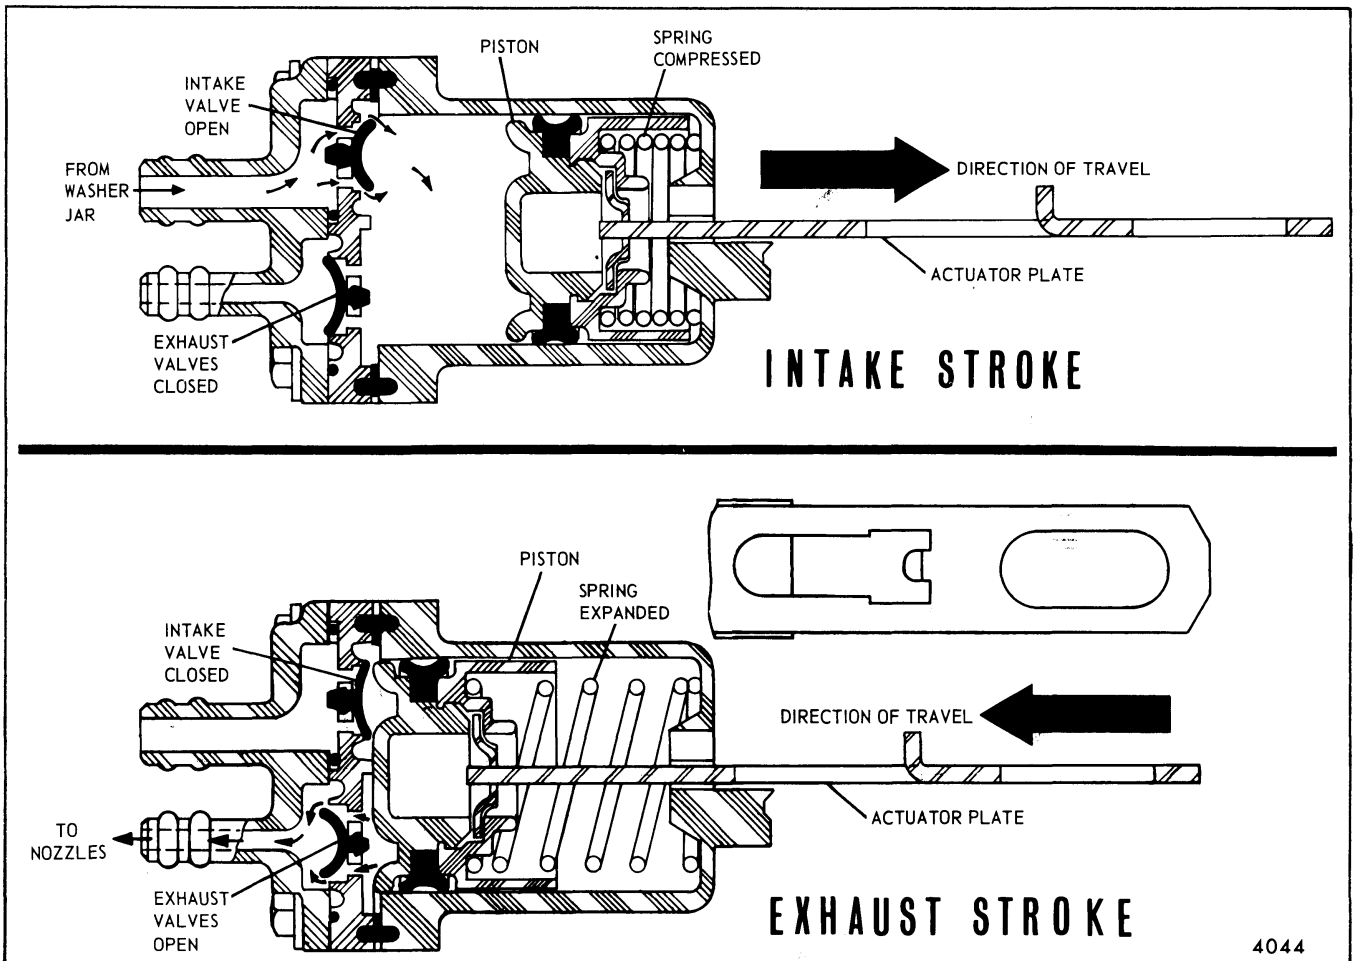
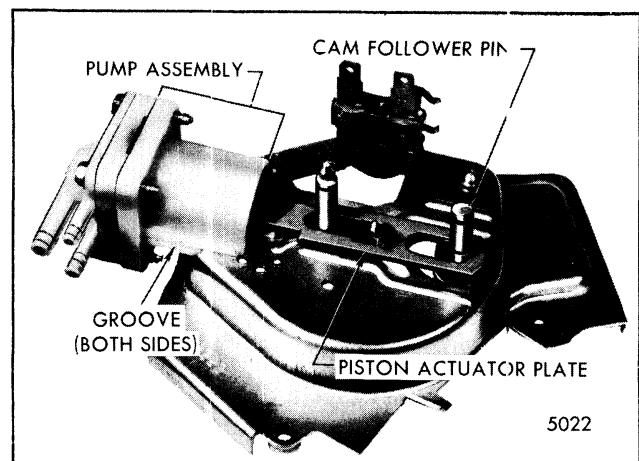

Fig. 2-61-Intake and Exhaust Stroke
Fig. 2-67-Pump Intake Stroke
had been held in a compressed position, expands pushing the piston toward the valve assembly resulting in the first exhaust stroke (Fig. 2-61). The movement of the piston toward the valve assembly also pulls the piston actuator plate in the same direction causing the back edge of the elongated opening in the actuator plate to move up tight against the upper cam follower pin.
As each lobe actuates the follower, the cam follower in turn moves the piston actuator plate and piston away from the valve assembly compressing the piston spring. The movement of the piston away from the valve assembly creates a vacuum in the pump cylinder which draws the wash solution into the pump cylinder through the intake valve (Fig. 2-61).
Referring to Figure 2-67, note that the elongated slot of the piston actuator plate fits over a pin. This pin
When the cam-follower moves in the direction indicated by the arrow in Figure 2-67, the cam-follower pin, which extends thru the piston actuator plate, pulls the actuator plate away from the valve assembly compressing the piston spring. As the piston moves away from the valve assembly, a vacuum is created in the cylinder which opens the intake valve, drawing washer solution into the cylinder (Fig. 2-61).
As the 4-lobed cam continues to rotate, the cam-follower pin moves in the opposite direction described in the Intake Stroke. This permits the piston spring to expand which in turn pushes the piston toward the valve assembly creating pressure between the piston and valve assembly. This pressure "build-up" forces the washer solution out the two exhaust valves to the nozzles (Fig. 2-61).
2. To release the plastic pump housing from the sheet-metal base, pull it in the direction toward the valve end until the grooves in the housing clear the base. Next, detach the assembly from the cam-follower pin (Fig. 2-67).